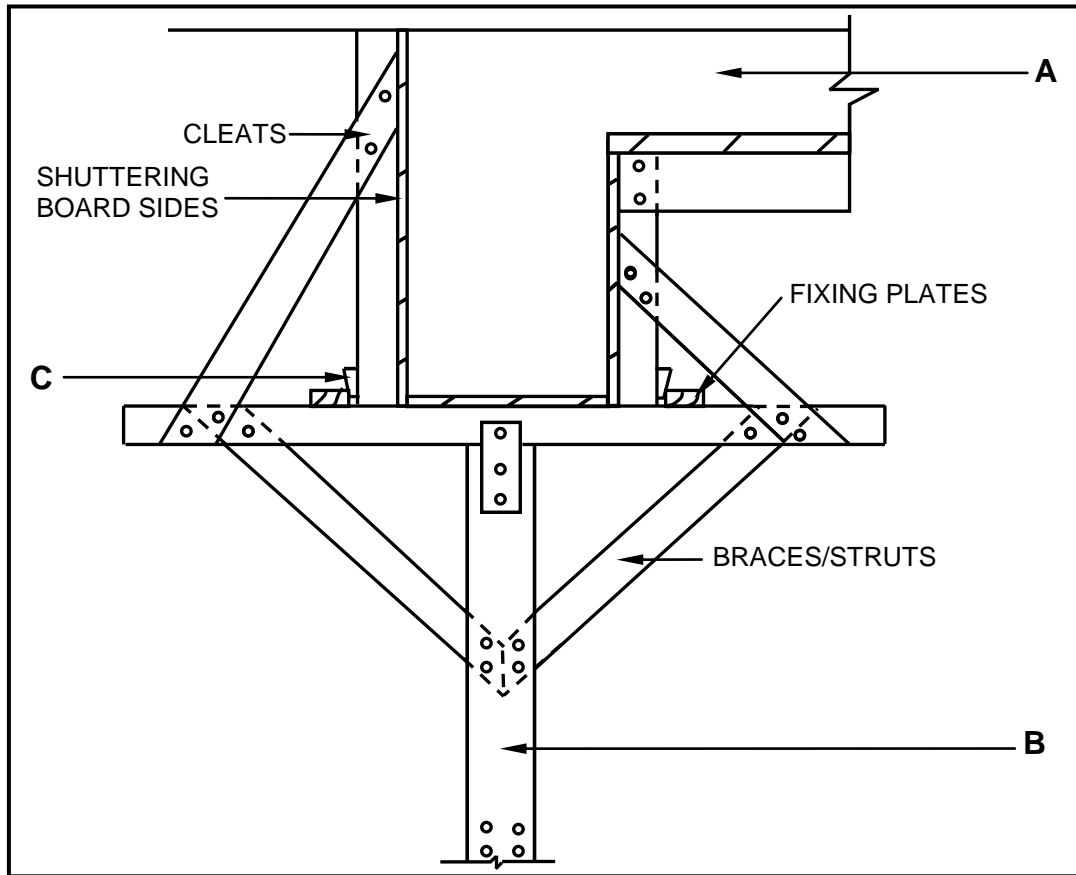

FIGURE 4.8
4.8 FIGURE 4.8 below shows formwork used on a construction site.